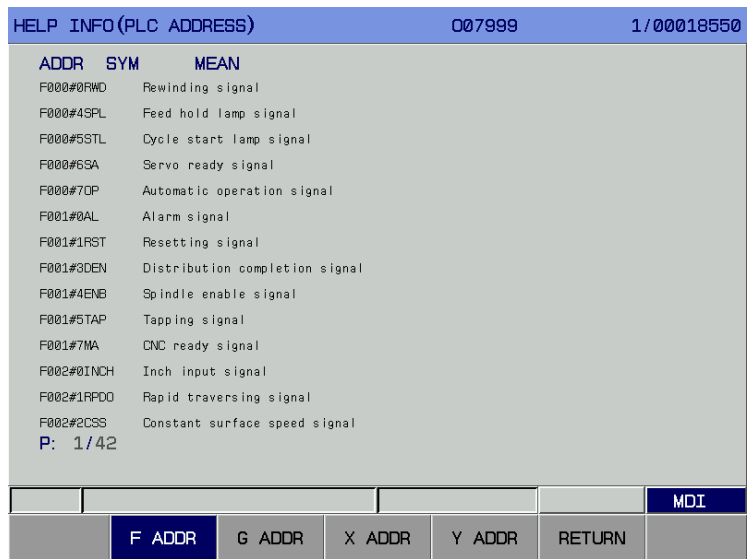

Fig. 3-9-8
7. For PLC.AD interface, press the [PLC.AD] soft key on the <Help> interface to enter the help information (PLC address list) interface. The PLC address page has four interfaces: [F address], [G address], [X address], and [Y address]. The specific contents are shown in Fig. 3-9-8 to Fig. 3-9-11.